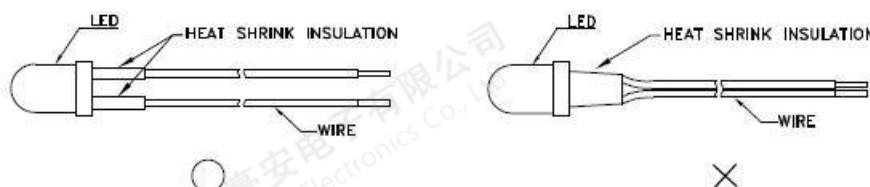

Figure 2
2. When soldering wire to the LED, use individual heat- shrink tubing to insulate the exposed leads to prevent accidental contact short-circuit (Fig. 2)